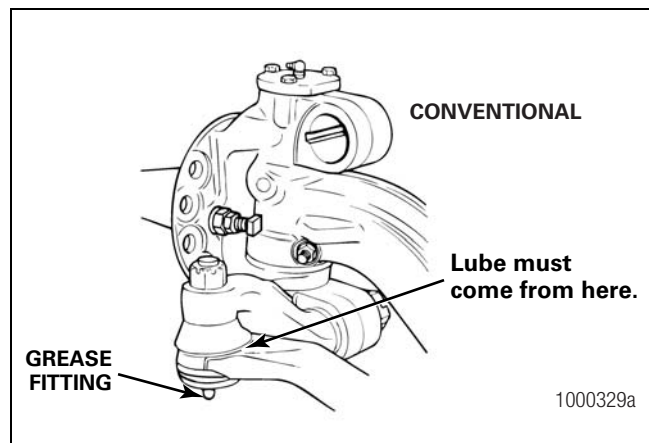
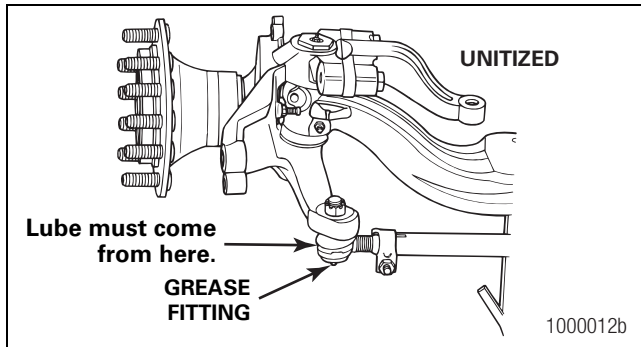

Figure 6.34
Figure 6.35
4. Apply lubricant until new lubricant comes from the boot. Figure 6.34 and Figure 6.35.